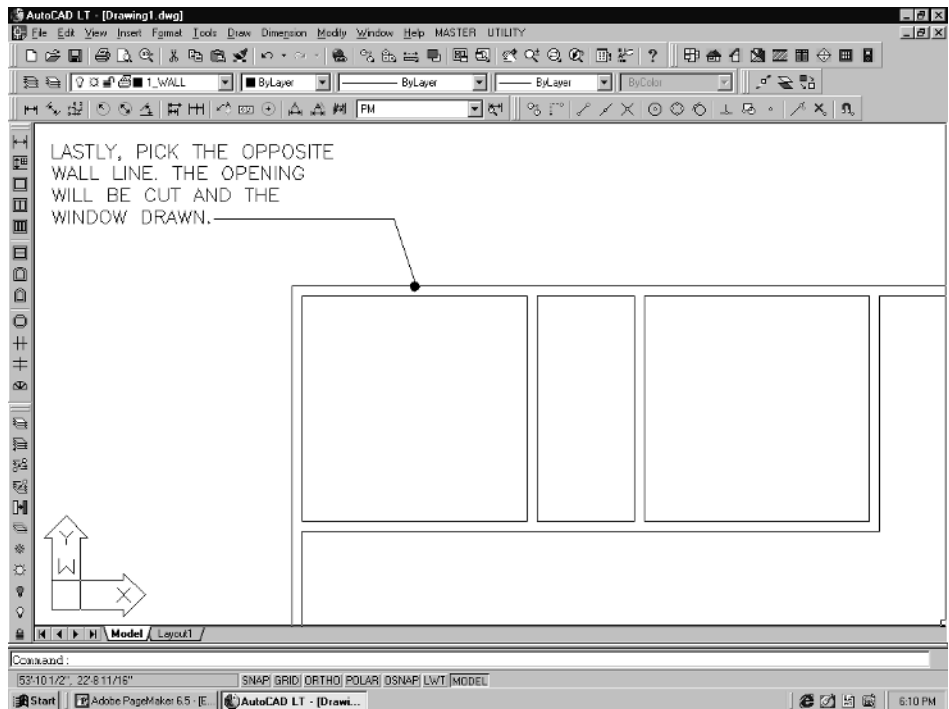

Figure 6-20
4. The next prompt is *From point: _per to*. This is prompting you to pick the opposite wall line. See Figure 6-20.